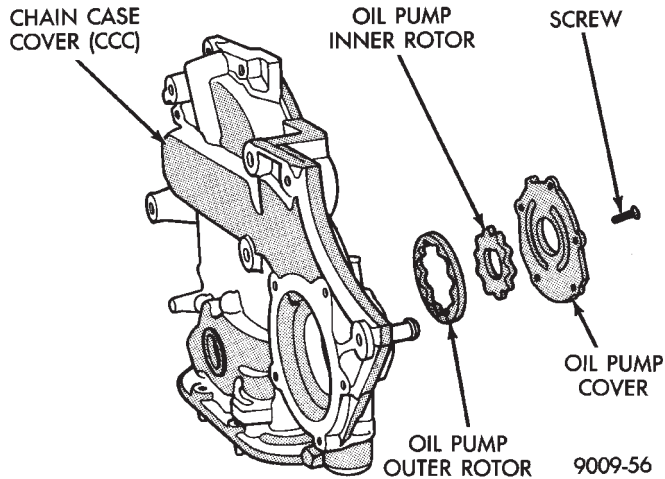

Fig. 70 Oil Pump
(4) Remove oil pump cover screws, and lift off cover.
(5) Remove pump rotors.
(6) Wash all parts in a suitable solvent and inspect carefully for damage or wear (Fig. 70).